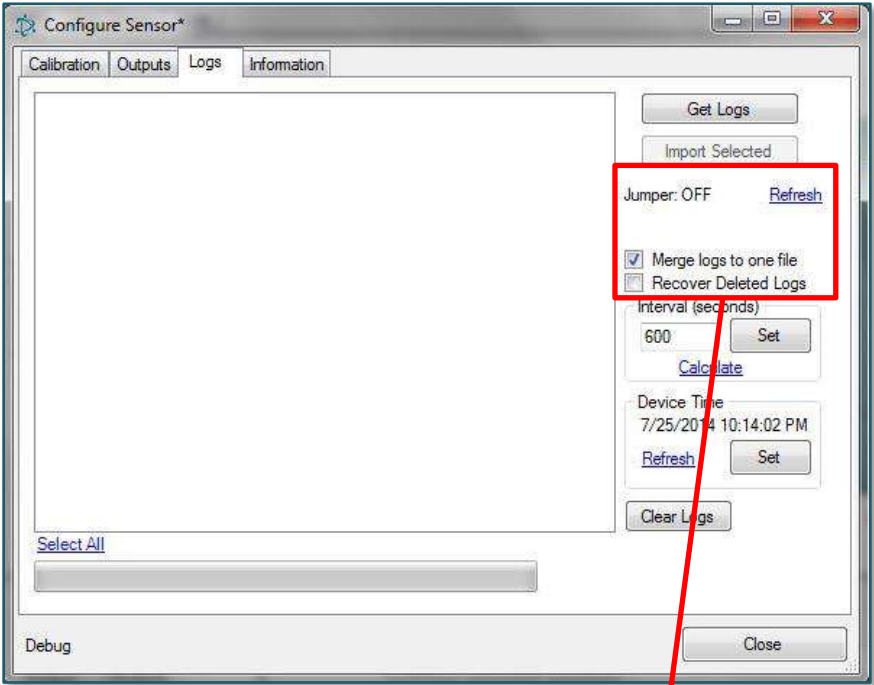

Figure 21: LOGS tab
The LOGS tab shown in **Figure 21** allows the user to download and clear logs as well as program the logging interval and time.
Refer to **Figure 21** for the appropriate buttons:
6. If your meter has a **START LOGGING** switch, then the **JUMPER** status must be shown as OFF, as shown in **Figure 21**, indicating that this switch is in the OFF position. If the **JUMPER** status is ON, verify that the **START LOGGING** switch on your meter is in the correct position and click **REFRESH** on the **LOGS** tab. If your meter doesn’t have a **START LOGGING** switch, then the jumper status is not shown.
7. Selecting the **MERGE LOGS TO ONE FILE** check box, as shown in **Figure 21**, will allow for the various data log files to be downloaded into a single CSV file.